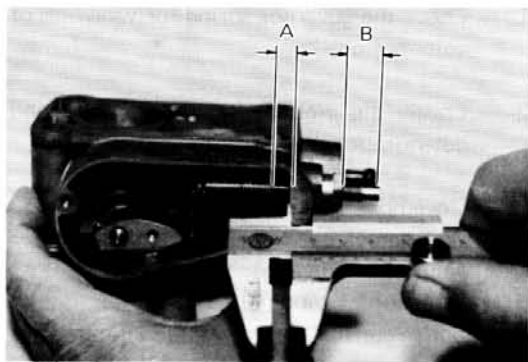

Fig. 2-45 Installing Position of Governor Spring
- Install the governor spring in accordance with Fig. 2-45 measurements. Do not slant the spring upon installation.